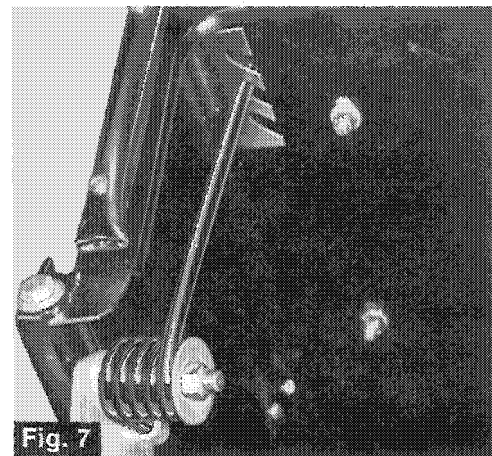

Fig. 7
As only one of many new features, the track tension of your Ski-Doo snowmobile is readily adjustable. A slotted anchor holds the top of the track tensioner springs (2), and tension is adjusted by moving the springs to any of 3 positions. (See Fig. 7). Both springs must always be moved equally, however.
To enable you to adjust your track tension easily, to almost any type of snow condition, the tops of the track tensioner springs are held by a 3-position slotted anchor. (For details, see Driving Hints, Page 10). (See Fig. 7).